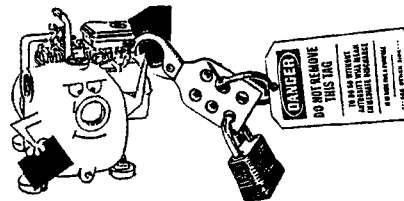

FIG. 11
- **If an unsafe condition cannot be remedied immediately, notify your supervisor and tagout/lockout** the pump on the start switch and/or appropriate, prominent location. (FIG. 11)
BEFORE ANY maintenance **work** is to be done, a LOCKOUT/TAGOUT standard device and procedure should be implemented. Prior to removal of LOCKOUT/TAGOUT, the equipment must be fully operational and all personnel accounted for. Except in cases of emergency, the removal of the LOCKOUT/TAGOUT should be done **ONLY** by the initiating person prior to the return to start-up (see page 12, Fig. 11).
NEVER perform any work on the equipment unless authorized to do so. (FIG. 11) Before performing any maintenance or repair work, consult the manufacturer's instruction manual for recommended procedures.